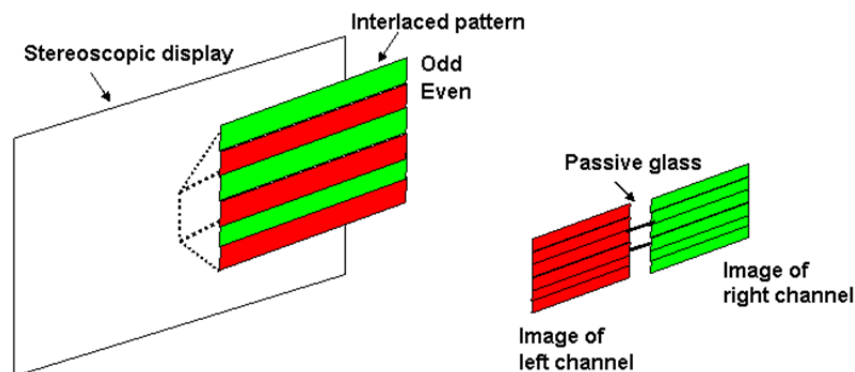

Figure 1
4.2.4 *interlaced pattern* — the pattern rendered by even rows and odd rows of the display panel. For example, the interlaced pattern of the left channel is even rows on the stereoscopic display while the other is the odd rows as shown in Figure 1.